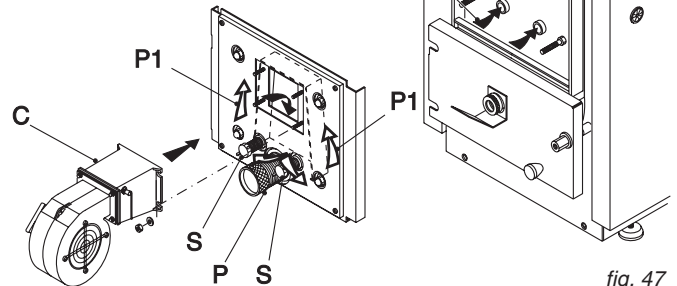

fig. 47
The GASOGEN G3 2S boiler is equipped with a ventilation control box for combustion air (fan pos. 7 fig.2) and with primary (pos. P, fig. 47) and secondary air adjusters. (pos. S, fig. 47).